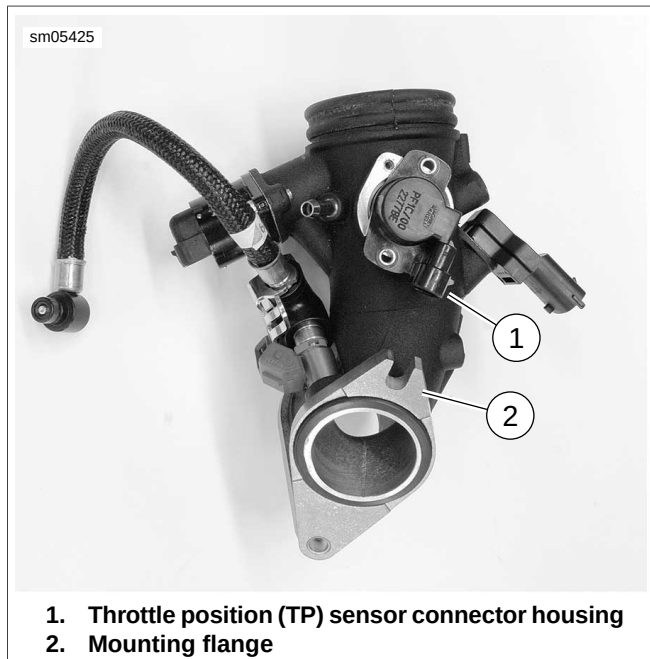

Figure 4-31. Throttle Position (TP) Sensor Installation (XR Models)
1. See Figure 4-31. Place sensor over throttle shaft with the connector housing (1) facing toward the mounting flange (2) as shown.